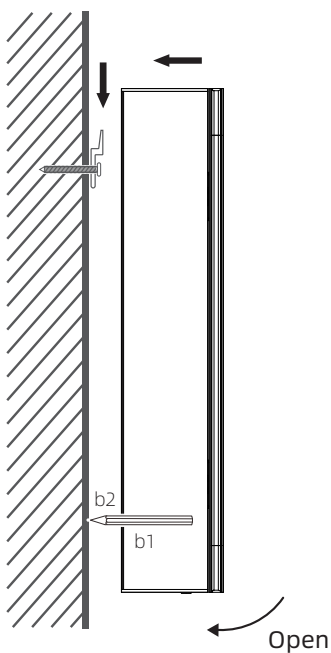
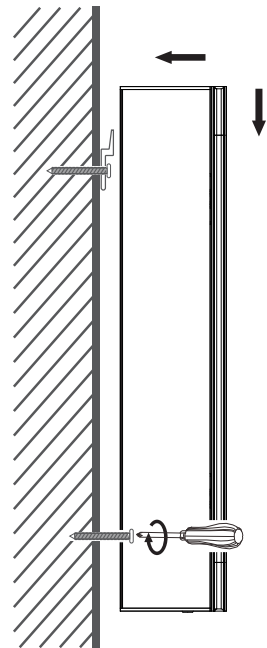

Fig. 3
Fig. 5
- Attach the mirror cabinet to the bar as shown in Fig. 3, open the cabinet door, and mark on the wall (b2) with a pencil through the backplate hole (b1).
- Repeat the operation as shown in Fig. 3 and mount the mirror cabinet to the bar, and then tighten the screws on the backplate (Fig. 5).